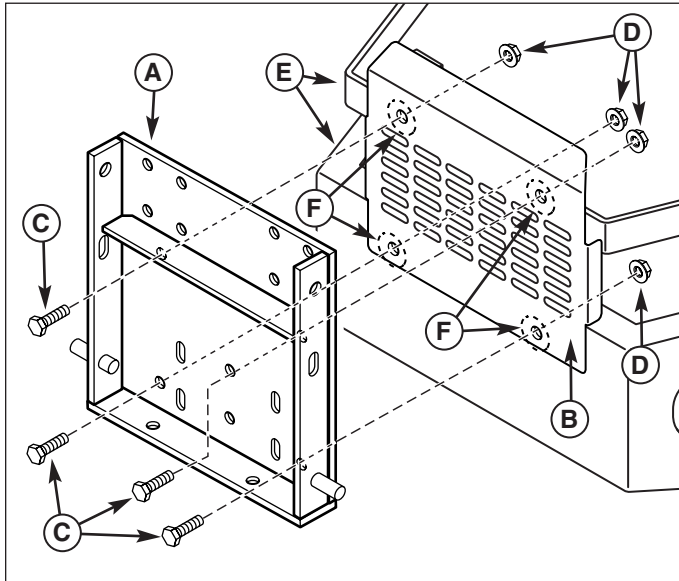

Figure 1. Install Hitch Plate (Flat Style Bumper)
1. Remove and discard hardware holding heat shield (B, Figure 1) to upper and lower bumper (E).
2. Open existing holes (F) in heat shield (B) and upper & lower bumper (E) to 17/32". Install hitch plate (A) to upper and lower bumper (E) keeping heat shield (B) in between as shown. Secure with 1/2-13 x 1-1/4 cap screws (C) and 1/2-13 locknuts.